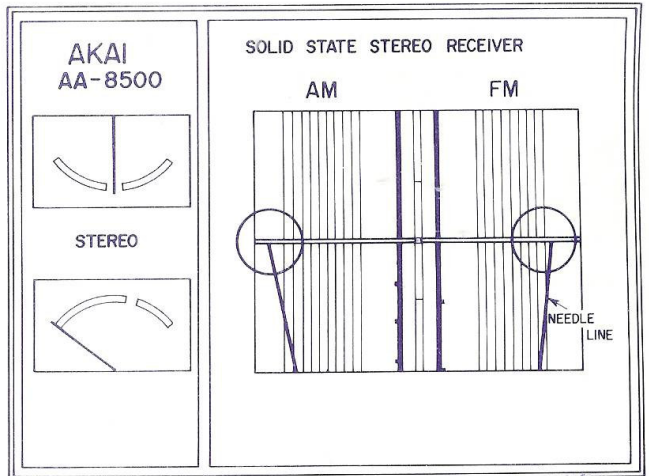
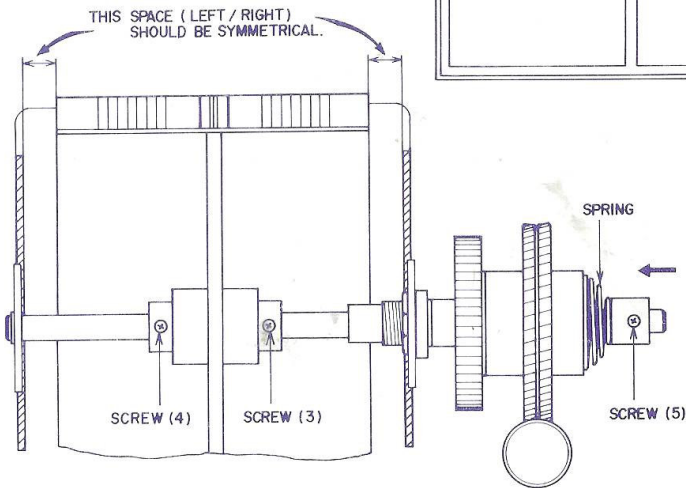

Fig. 17
Fig. 18
- 1) Adjust Screws (1) and (2) so that as the dial is rotated from end to end, the teeth of the fan-shaped gear (last tooth on both ends) are symmetrical (left/right) and comes to the center of the meshing gear.
- 2) Adjustment is made with dial scale at extreme top position (knob turned to extreme left). Tighten screws (3) and (4) so that dial drum is in exact center of dial scale (Fig. 17) and at position where needle lines (right and left) are exactly aligned with horizontal line at middle of dial (as shown in Fig. 18).